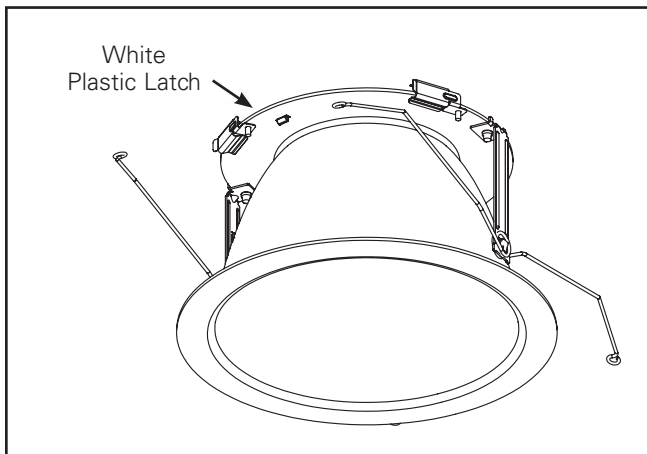
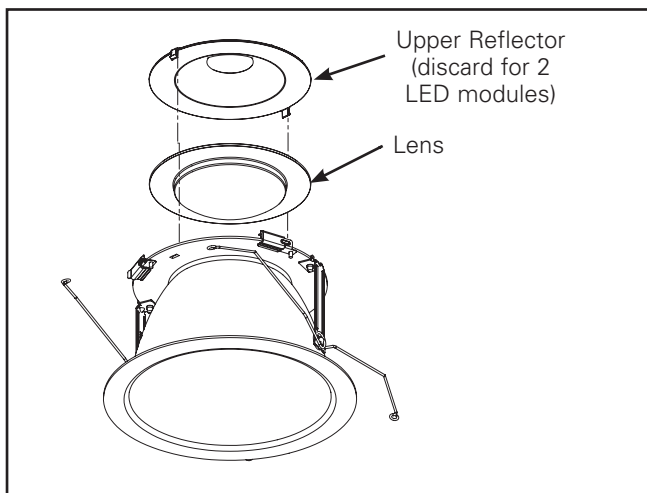

Figure 15.
Figure 16.
2. If the LED modules has 2 LEDs, gently remove the upper reflector by disengaging the white plastic latches (Figure 15. & Figure 16.) and discard it. Retain the upper reflector on the trim for 1LED modules.